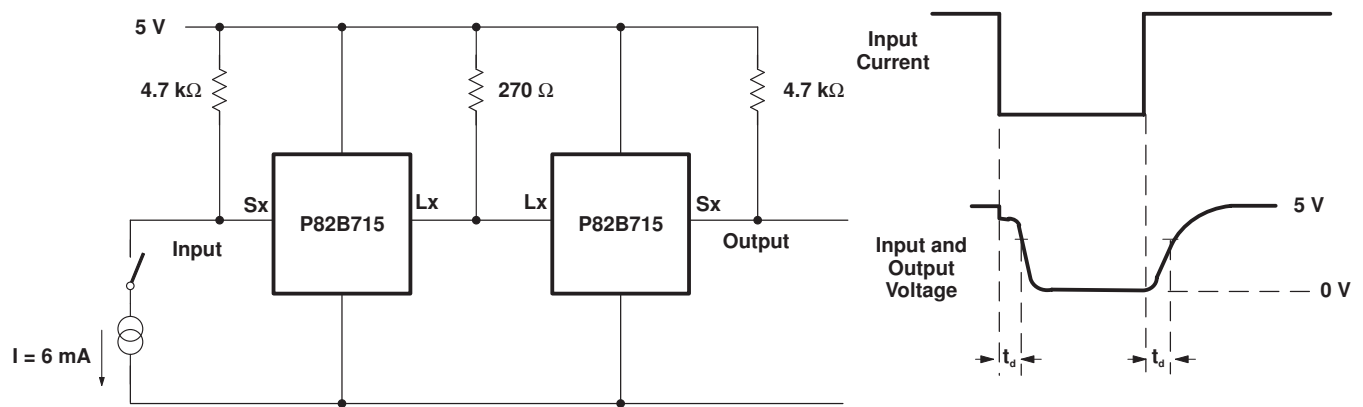

Figure 2. Test Circuit for Delay Times
- A conventional input-output delay is not observed in the S_x/L_x voltage waveforms, because the input and output pins are internally tied with a 30- Ω resistor so they show equal logic voltage levels to within 100 mV. When connected in an I^2C system, an S_x/S_y input pin cannot rise/fall until the buffered bus load at the output pin has been driven by the internal amplifier. This test measures the bus propagation delay caused to falling or rising voltages at the L_x/L_y output (as well as the S_x/S_y input) by the amplifier's response time. The figure given is measured with a drive current as shown in Figure 2. Because this is a dynamic bus test in which a corresponding bus driving IC has an output voltage well above 0.4 V, 6 mA is used instead of the static 3 mA.